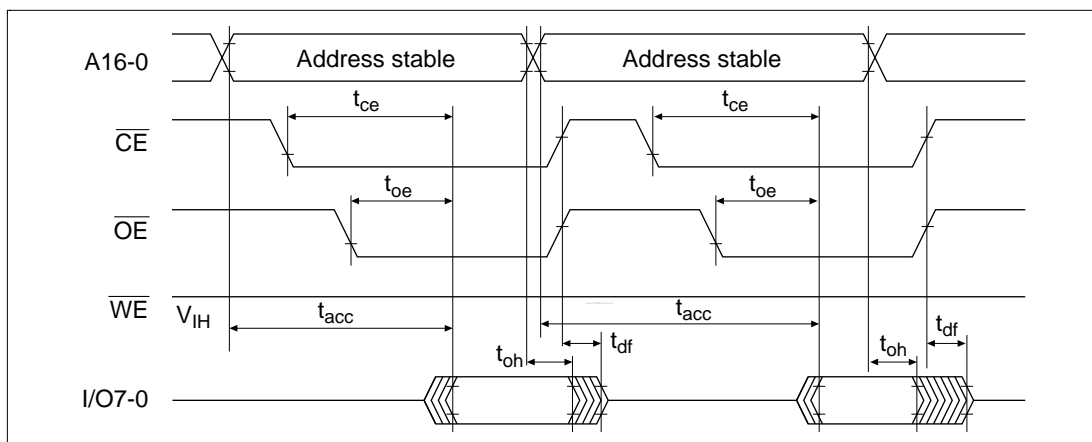

Figure 22.24 $\overline{\text{CE}}$ and $\overline{\text{OE}}$ Clock System Read Timing Waveforms
4. Memory address transfer is performed in the second cycle (figure 22.24). Do not perform transfer after the second cycle.